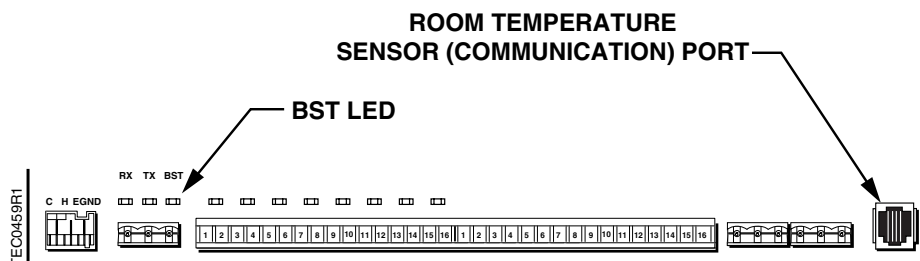

Figure 2. OAVS LRC Board Showing Location of BST LED and RTS Port.
2. Verify that the Basic Sanity Test (BST) LED on the LCM flashes once per second. See *Figure 2*.
1. Plug the MMI into the Room Temperature Sensor port. See *Figure 2*.